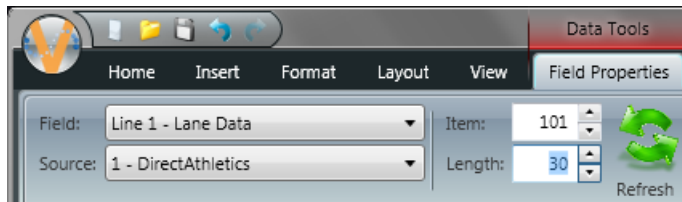

Figure 60: Data Field Properties (Galaxy/M3)
6. With the "Line 1 - Lane Data" data field still selected, click on the **Field Properties** tab (**Figure 60**). Adjust the *Length* to best fit the presentation layout. The *Length* value should match the *Width* set up in MeetPro. Refer back to **Figure 33** or **Figure 48**. While adjusting the width of the data field, leave a couple pixels of space on either side to ensure that the edges are not touching any sides of the sign boundary.